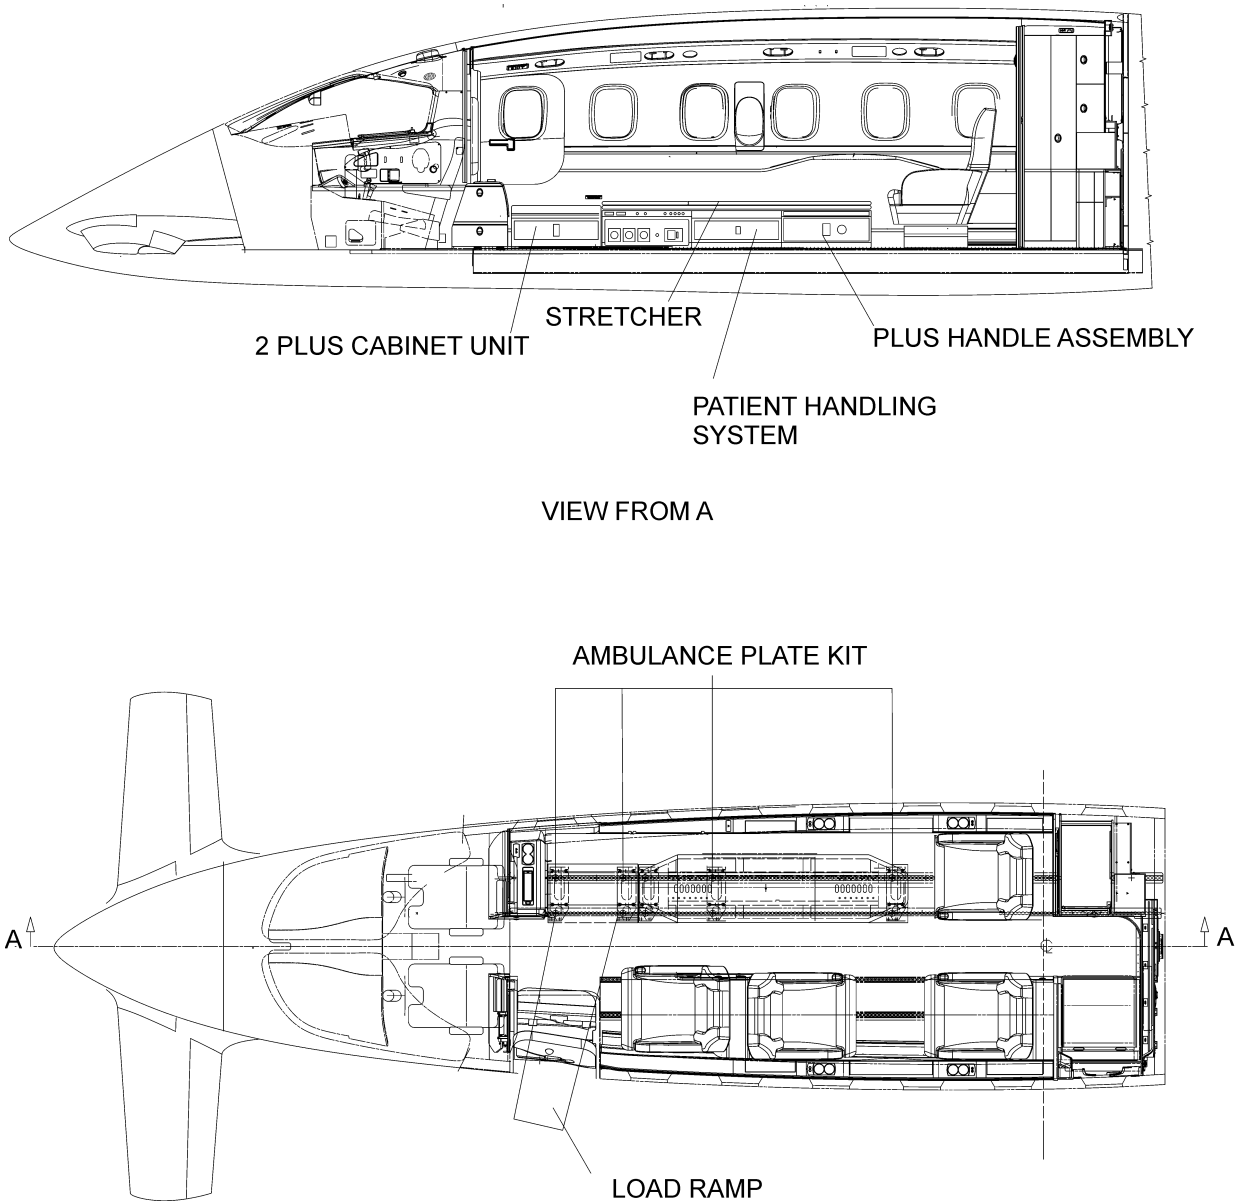

Fig. 17 - Corporate 2 A1 Configuration
R. The Corporate 2 A1 passenger compartment (Ref. to Fig. 17).